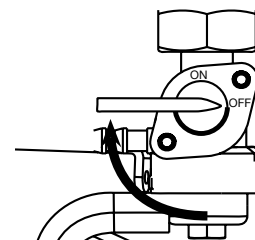

Figure 15 - Fuel Shut Off - OFF
5. Move the fuel shut off valve to the **OFF** position (see Figure 15 below).